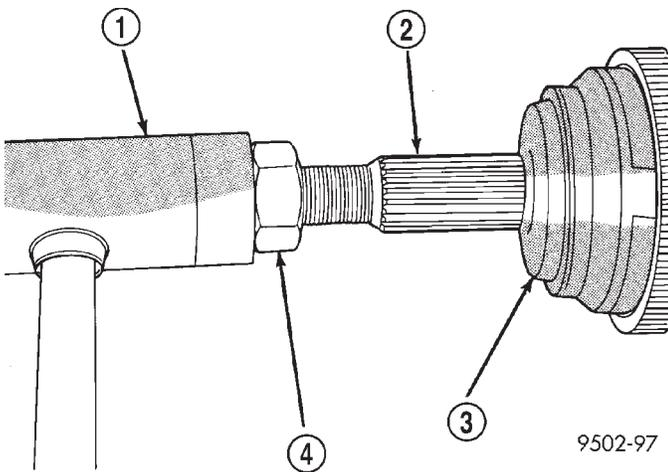

Fig. 40 Outer C/V Joint Installation on Interconnecting Shaft
(2) Align splines on interconnecting shaft with splines on cross of outer C/V joint assembly and start outer C/V joint onto interconnecting shaft.
(3) Install outer C/V joint assembly onto interconnecting shaft by using a **soft-faced hammer** and tapping end of stub axle (with nut installed) until outer C/V joint is fully seated on interconnecting shaft (Fig. 40).